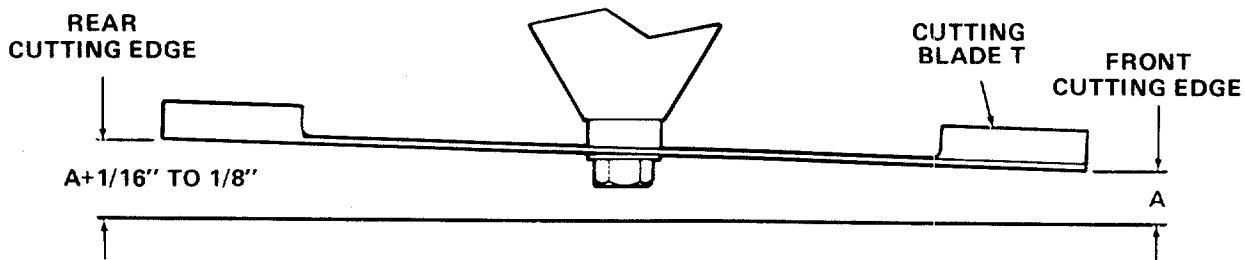

Figure 32
5. Refer to Figure 32. Measure and record the distance from the hard, level surface to the CUTTING EDGE at the front and rear of each of the
11. With the lift handle in position number 6, repeat and record the blade measurements described in step 5. Refer to your recorded cutting-edge-to-ground measurements. Each of the two blades must have a downward tilt toward the front of the tractor. A proper tilt is achieved when a blade's rear cutting-edge-to-ground measurement (measurement A+, Figure 32) is 1/16 to 1/8 inch higher than that blade's front cutting-edge-to-ground measurement (measurement A, Figure 32). If a proper tilt does not exist for one or both of the blades, refer to step 12.